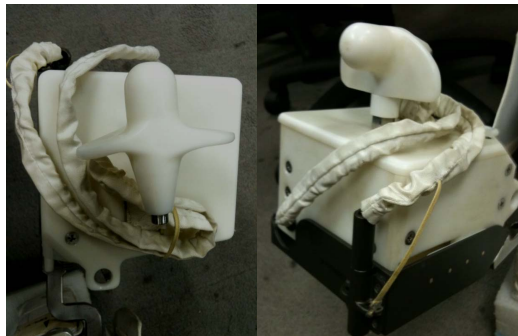

Figure 1. Front and Top View of HCM Cable Routing
4. Stow HCM (See figure 1)
23. Stow HCM (see figure 1)